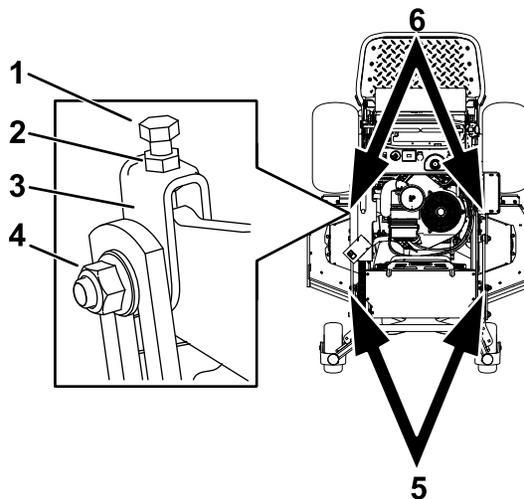

Figure 97
1. Loosen the jam nut and side bolt in the yokes that you want to adjust (Figure 97).
2. Rotate the top bolt of the yokes to adjust the height of the mower deck (Figure 97).
5. If the measurement is not correct, locate the front 2 yokes on the machine (Figure 97).